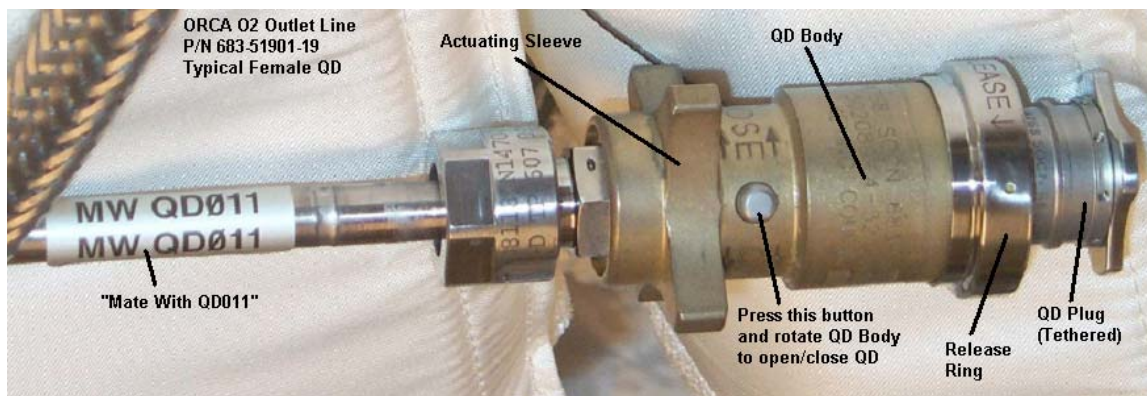

Figure 2.- High-Pressure QDs.
2. Verify seals and surfaces clear of FOD (debris or damage). The PCBM must be clear of debris or damage/irregularities outside of conditions consistent with historical acceptance. Refer to Figures 2 and 3.
3. Verify the ability for CBM Seals to seal; refer to Figure 2. There must be a very high degree of confidence in the ability of at least one PCBM seal to completely seal against the ACBM interface.